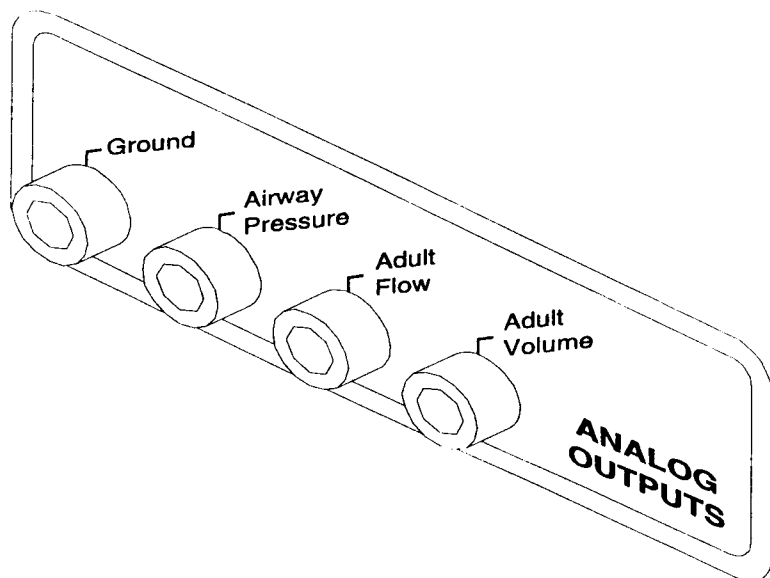

Figure 2.5.3-1. Model VT-1B or VT-2 Analog Outputs
1. **Analog Outputs:** On the left side panel of the Model VT-1B or VT-2 electronics unit are the analog outputs for connection to a chart recorder, arranged and labeled as shown in Figure 2.5.3-1.